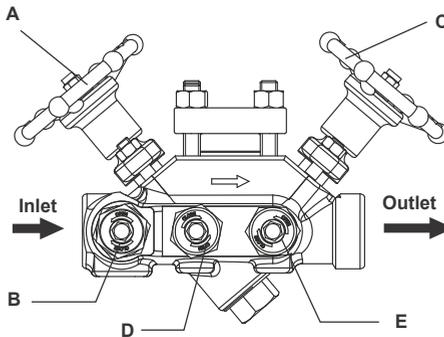

Figure 4 : Compact Module Thermodynamic Trap [CMTD62M-F]
1. The Compact Module Thermodynamic trap is a compact steam trap module comprising of a upstream isolation valve (A) and downstream isolation valve (C) to protect the steam trap, a trap test valve (D) to test the steam trap functioning, a bypass valve (B) before the steam trap to bypass the flow during maintenance of the steam trap and a trap vent valve (E) to release pressure in the steam trap safely at the time of maintenance as shown in Fig. 4.